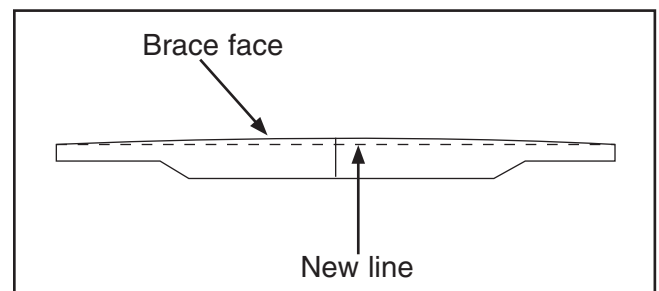

Figure 12. Sound board brace with line marked.
3. Using a straightedge and pencil, mark a line as shown in **Figure 12**.